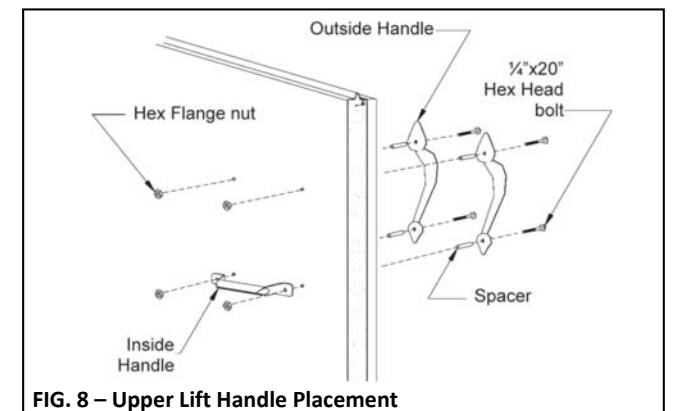

FIG. 8 – Upper Lift Handle Placement
Step 6: Take the two vertical ornamental handles and position on the 2nd section. Using the handles as a template, mark the holes to be drilled. With the sections stacked, the lower hole on each vertical handle must lie between 20" and 30" vertically from the holes on the bottom handle. The holes on each vertical handle should be centered 5-1/2" horizontally from each other. The holes on both vertical handles should line exactly with the holes on the bottom horizontal handle. No hole may be closer than 2" to the top or bottom of the section (See Fig. 8).
Step 10: Attach each vertical ornamental handle (outside) and one steel horizontal roll grip handle (inside) to the door using two 1/4" black painted hex head bolts, and two 1/4" hex nuts. Use a set of hex head bolts and hex nuts to fasten the vertical handles to the door through the remaining holes. The inside handle may be matched with either set of holes so long as it is no closer than 4" to the top or bottom of the section (See Fig. 8).